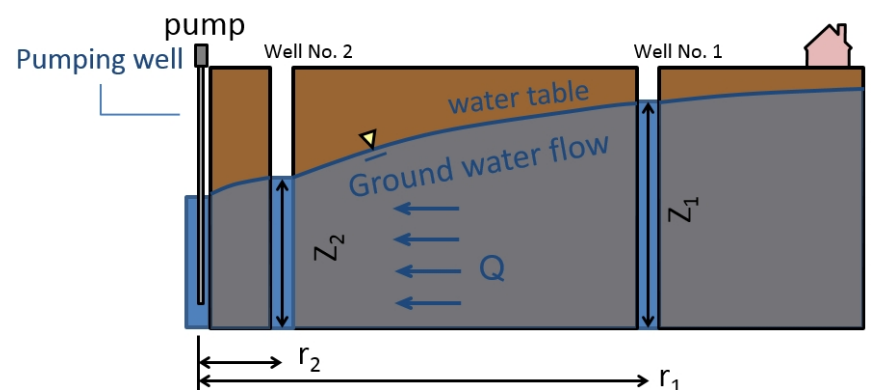

Fig. 1: Pumping well
2. A pump is working to bring down the water table around a pumping well. Based on the Fig. 1, water level drops in well No. 1 to $Z_1 = 10 \text{ m}$ and in well No. 2 to $Z_2 = 5 \text{ m}$. The distances of well No. 1 (r_1) and well No. 2 (r_2) from the pumping well are $r_1 = 20 \text{ m}$ and $r_2 = 10 \text{ m}$ respectively. If the soil permeability is $k = 0.05 \frac{\text{m}}{\text{sec}}$, then how much is the flow rate (Q) ? (4 points)